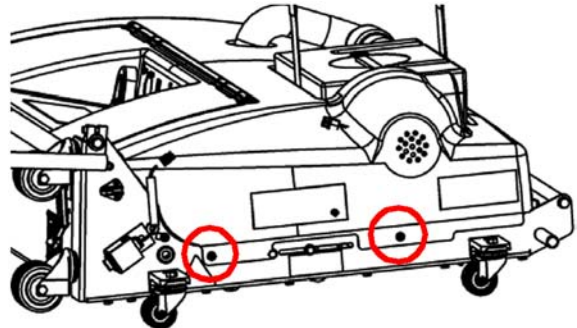

Figure 4-30
1. Unlatch the oil compartment door latches, disconnect the vacuum hose and remove the waste tank, remove the cap from the cleaner tank, remove the two screws from each side of the hood (see Figure 4-30), and lift the hood from the frame. Set the screws aside.